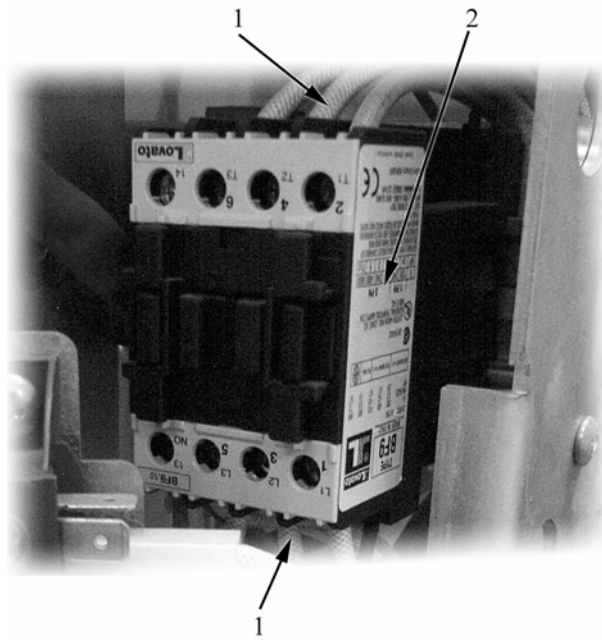

Fig. 19
- disconnect the electrical connections (item 1 in Fig. 19);
- remove the contactor (item 2 in Fig. 19);